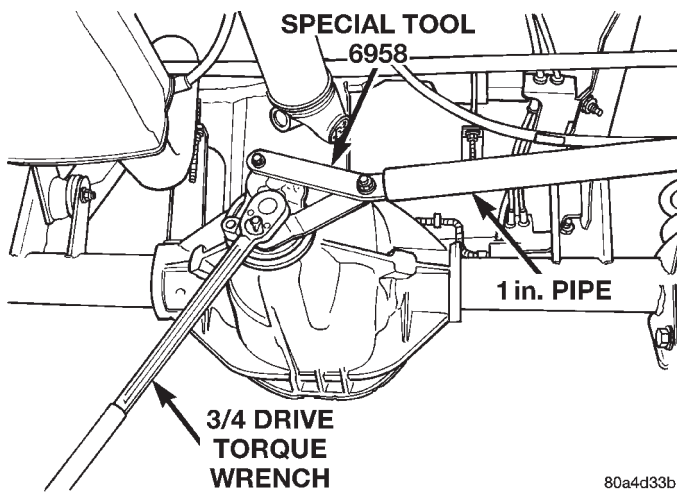

Fig. 23 Tightening Pinion Nut
(9) Using yoke holder 6958, a short length of 1 in. pipe, and a torque wrench set at 474 N·m (350 ft. lbs.), crush collapsible spacer until bearing end play is taken up (Fig. 23).